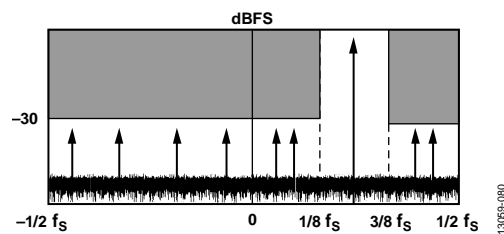
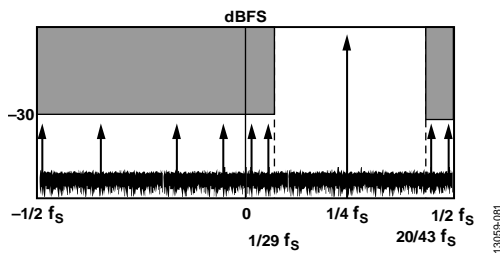

Figure 82. 25% VDR Bandwidth, Complex Mode
Figure 83. 43% VDR Bandwidth, Complex Mode
The complex mode of VDR works with selectable bandwidths of 25% of the sample rate (50% of the Nyquist band) and 43% of the sample rate (86% of the Nyquist band). Figure 82 and Figure 83 show the frequency zones for VDR in the complex mode. When operating VDR in complex mode, place in-phase (I) input signal data in Channel A and place quadrature (Q) signal data in Channel B.
Figure 82 shows the frequency zones for the 25% bandwidth VDR mode with a center frequency of  $f_s/4$  (tuning word = 0x04). The frequency zones where the amplitude may not exceed  $-30$  dBFS are the upper and lower portions of the Nyquist band extending into the complex domain.
Table 33 and Table 34 show the tuning words and frequency values for the 43% complex mode. Table 33 shows the relative frequency values, and Table 34 shows the absolute frequency values based on a sample rate of 491.52 MSPS. Figure 83 shows the frequency zones for the 43% BW VDR mode with a center frequency ( $f_{VDR}$ ) of  $f_s/4$  (tuning word = 0x04). The frequency zones where the amplitude may not exceed -30 dBFS are the upper and lower portions of the Nyquist band extending into the complex domain.